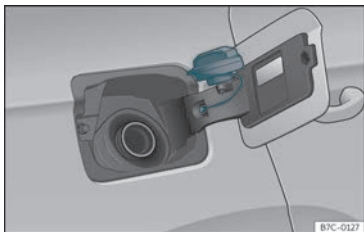

Fig. 199 Fuel tank flap with tank cap attached.
- Place it in the space on the hinge of the open flap»» Fig. 199.